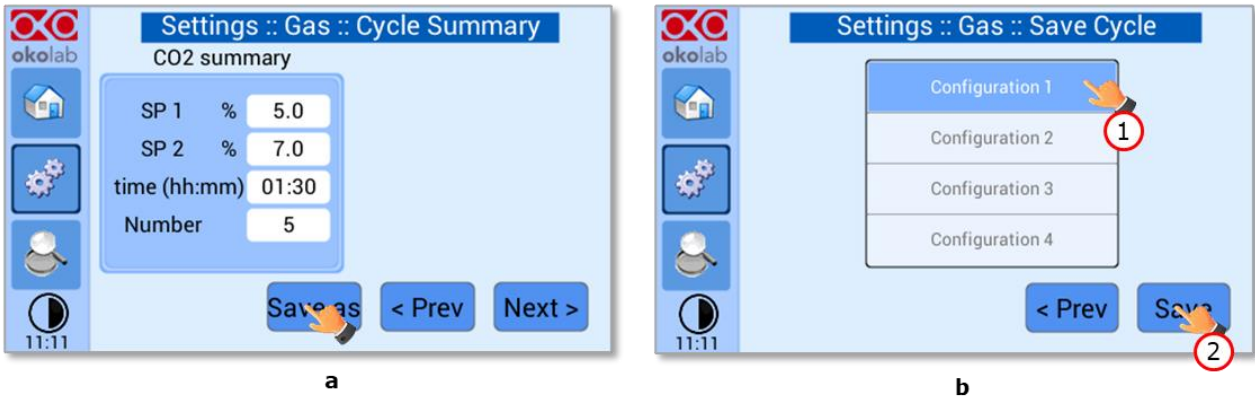

Figure 43. Cycle Summary and Configuration Saving (a - b).
4. Once you have adjusted the settings, the *Cycle Summary* page will be displayed (see Figure 43 a). Press *Save* As if you want to save the CO₂ Cycle program to be recalled for future experiments.